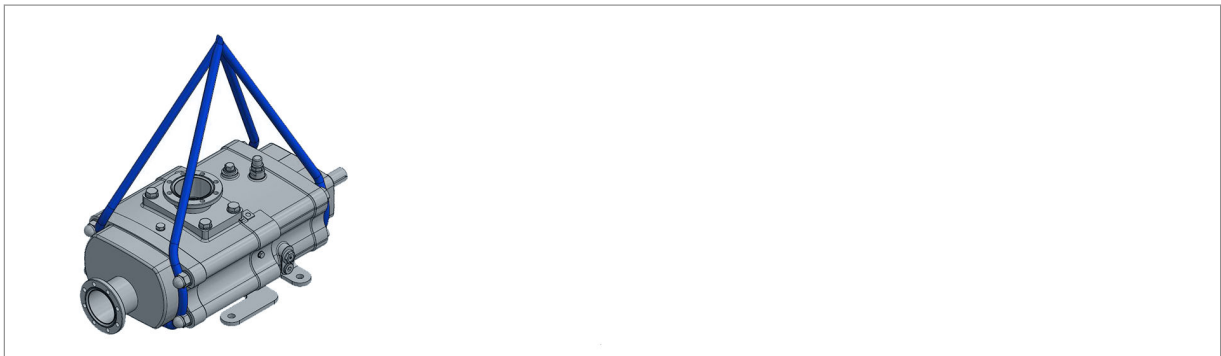
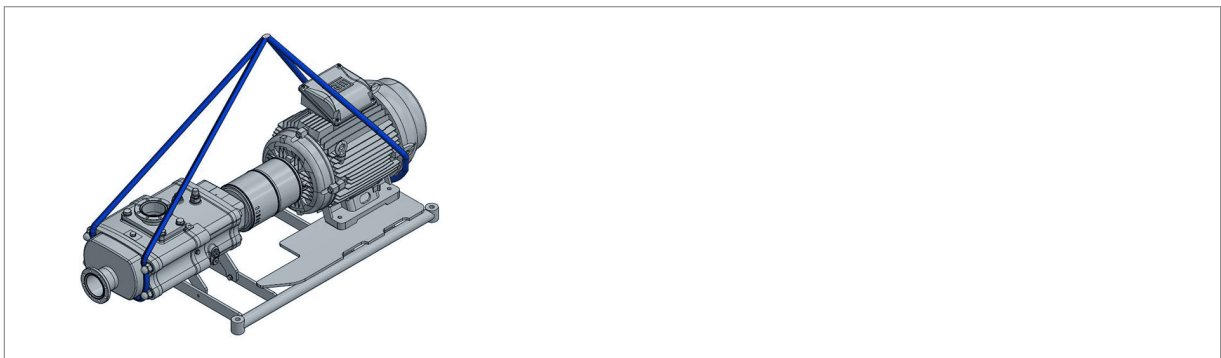

Fig. 4: Lifting the pump
Fig. 5: Lift the pump assembly
1. ➤ Fasten cables, straps or multi-point hangers in accordance with *Fig. 4* or *Fig. 5*.